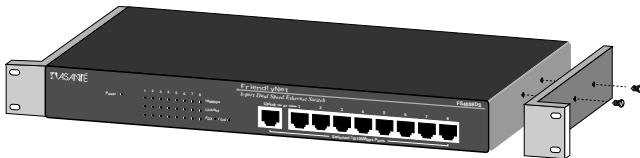

Figure 2-6 Attaching mounting brackets to the FS4008DS
- 1 Attach the two mounting brackets (supplied) on each side of the FS4008DS. See Figure 2-6.